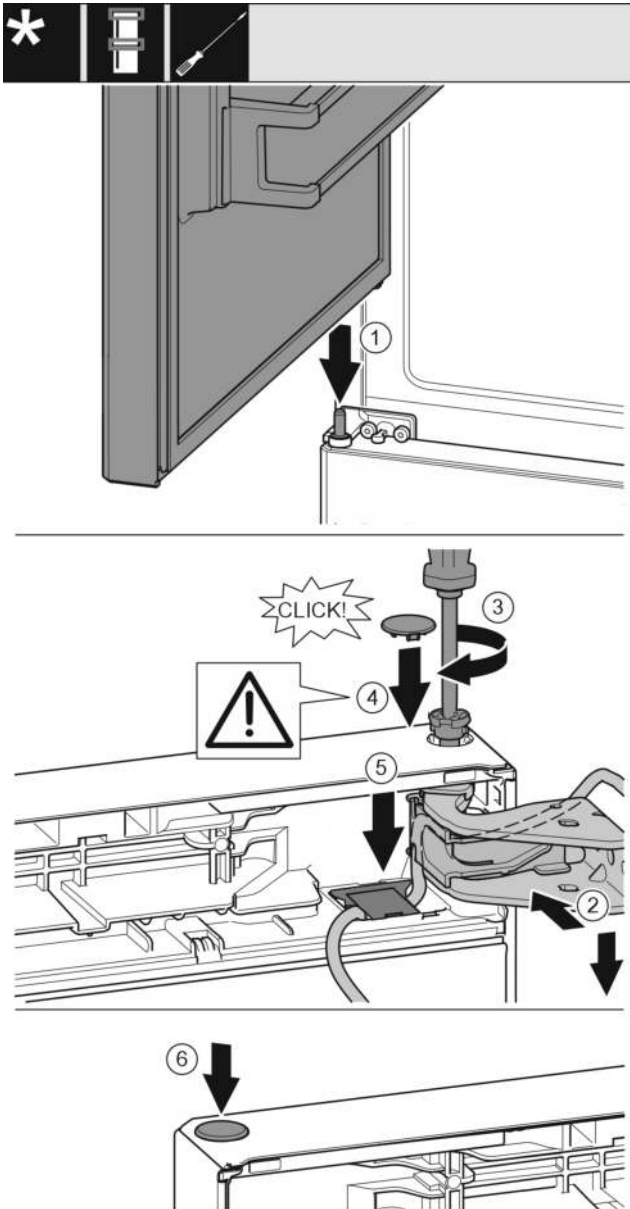

Fig. 42
- ▶ Place the upper door on the centre bearing pins Fig. 42 (1)
- ▶ Align the top of the door with opening in the bearing bracket. Fig. 42 (2)
- ▶ Insert the bolt and tighten with a T15 screwdriver. Fig. 42 (3)
- ▶ Fit the protective cover to protect the door: Insert the protective cover and check that it is flush to the door. If not, insert the bolt fully. Fig. 42 (4)
- ▶ Press the cover down until it latches into place. Fig. 42 (5)
- ▶ Insert the plugs. Fig. 42 (6)
- ▶ Place on the cover and press it down until it latches into place. Fig. 42 (5)